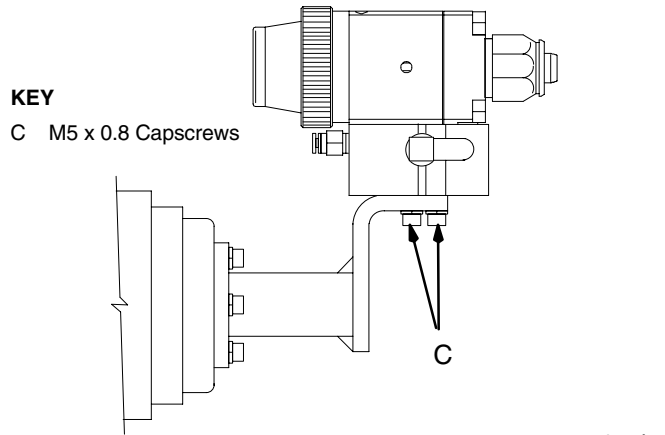

Fig. 3: All Manifolds
To mount the gun on a stationary support, see Fig. 3. Also refer to the mounting hole layout on page 30. Attach the gun to the support with two M5 x 0.8 capscrews (C). The screws must be long enough to engage the threaded holes in the gun manifold to a depth of 1/4 in. (6 mm). The tip of the gun should usually be 8 to 10 in. (200 to 250 mm) from the surface of the object.